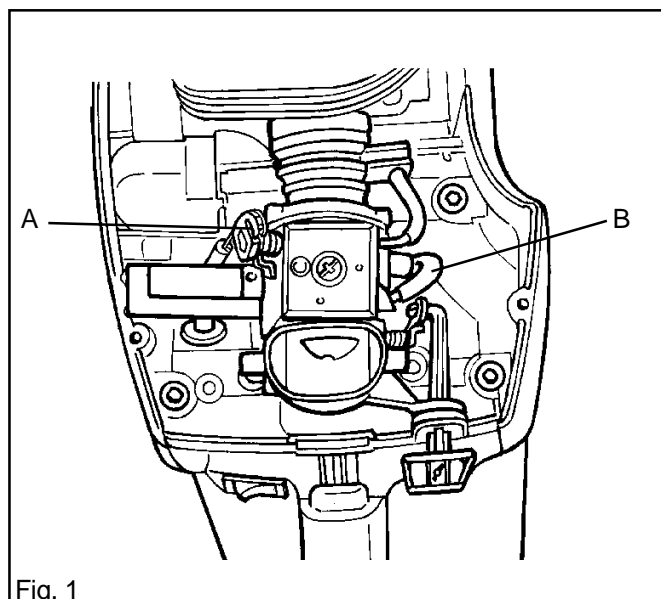
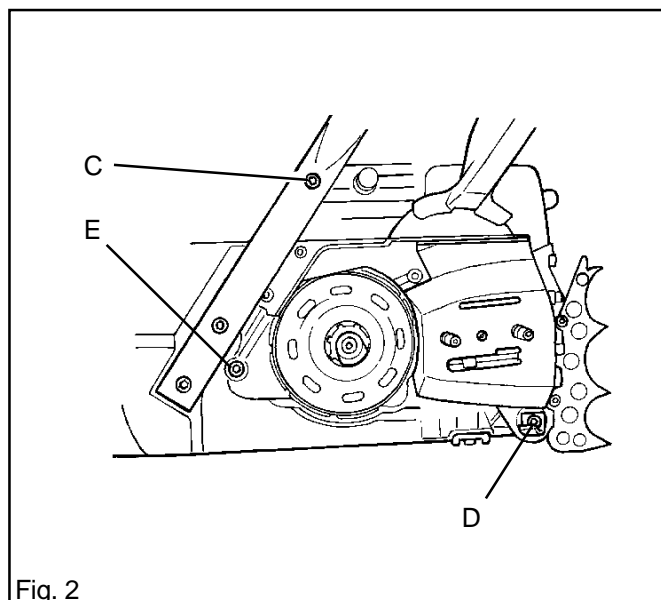

Fig. 1
Fig. 2
3. Disconnect the throttle cable (A) from the carburettor and push out the cable outer from its location. See fig. 1.
4. Remove the fuel pipe (B) from the carburettor.
6. Remove the bolts (C and D) and the travel limiter bolt (E) on the clutch side. See fig. 2.
2. Detach the springs from the cylinder with the help of a 4 mm Allen key. See fig. 1.
3. Detach the springs from the tank unit with service tools 502 52 18-01 and 502 52 18-02. See fig. 2.